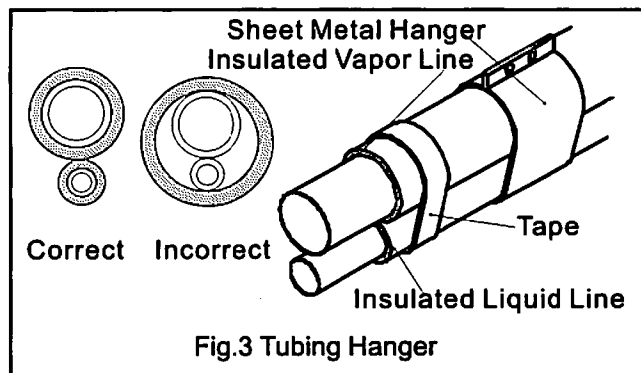

Fig.3 Tubing Hanger
4. The vapor line and liquid line must be insulated with a minimum of 1/2" foam rubber insulation (Armaflex or equivalent). Tape and suspend the refrigerant lines as shown. DO NOT allow tube metal-to-metal contact. See Fig. 3.